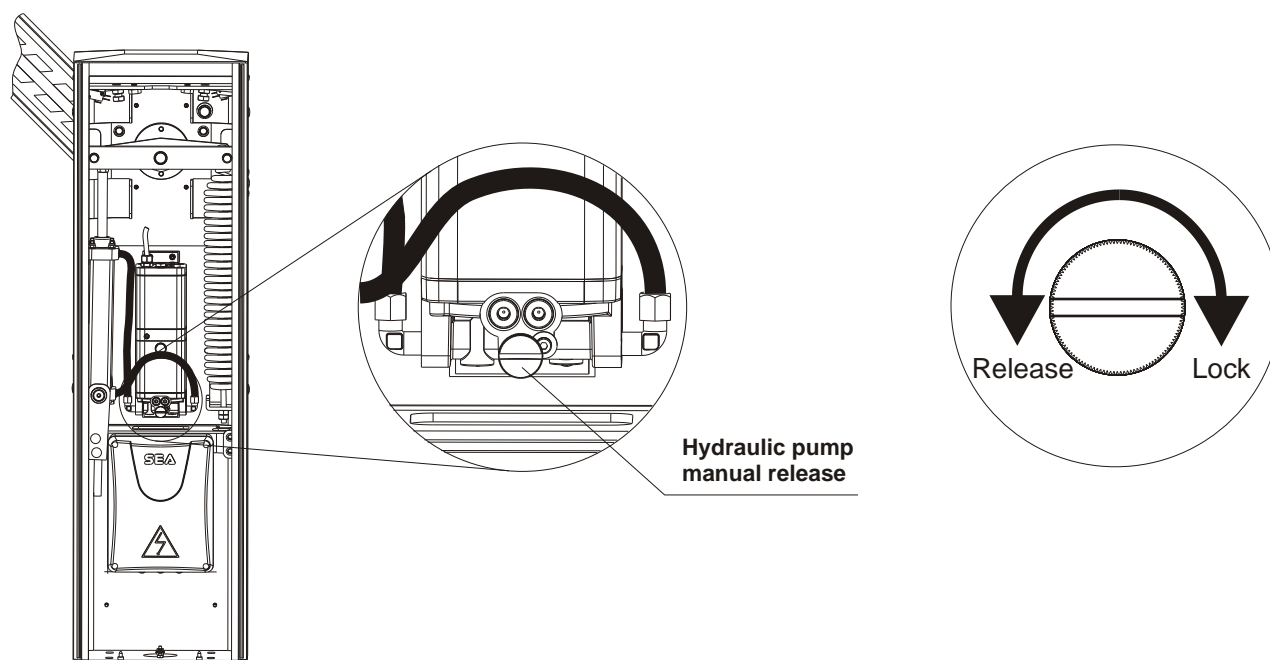

Fig.14
N.B.: Before executing this operation release the motor-reducer as shown in Fig.14.